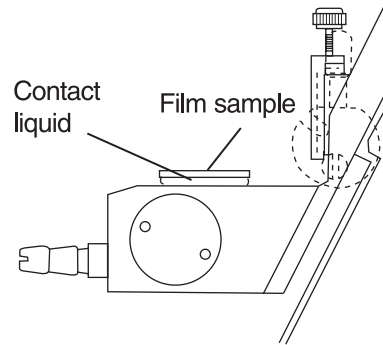

Fig. 9-9
④Put the sample with the contact liquid applied side down on the main prism and tightly contact them to each other (Fig. 9-9).